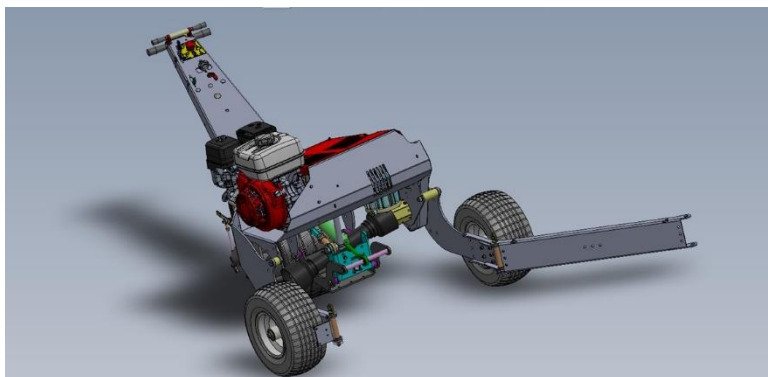

Figure 4: Rear 'door' bracket in open position
5.2.3 Remove the round pin which locks the rear 'door' bracket in place. Either the left or right pin can be removed. Next the rear 'door' bracket can pivot open giving all access to the hydraulic hitch. See figure 4.